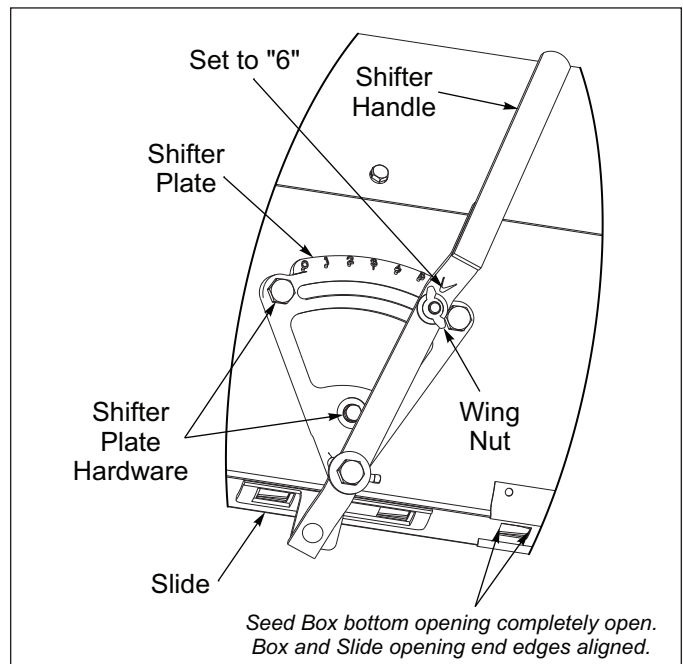

Figure 4-11: Shifter Handle Position at “6”
- Shift the Shifter Handle to “6”. The Agitator Box bottom opening should be completely open. See Figure 4-11.